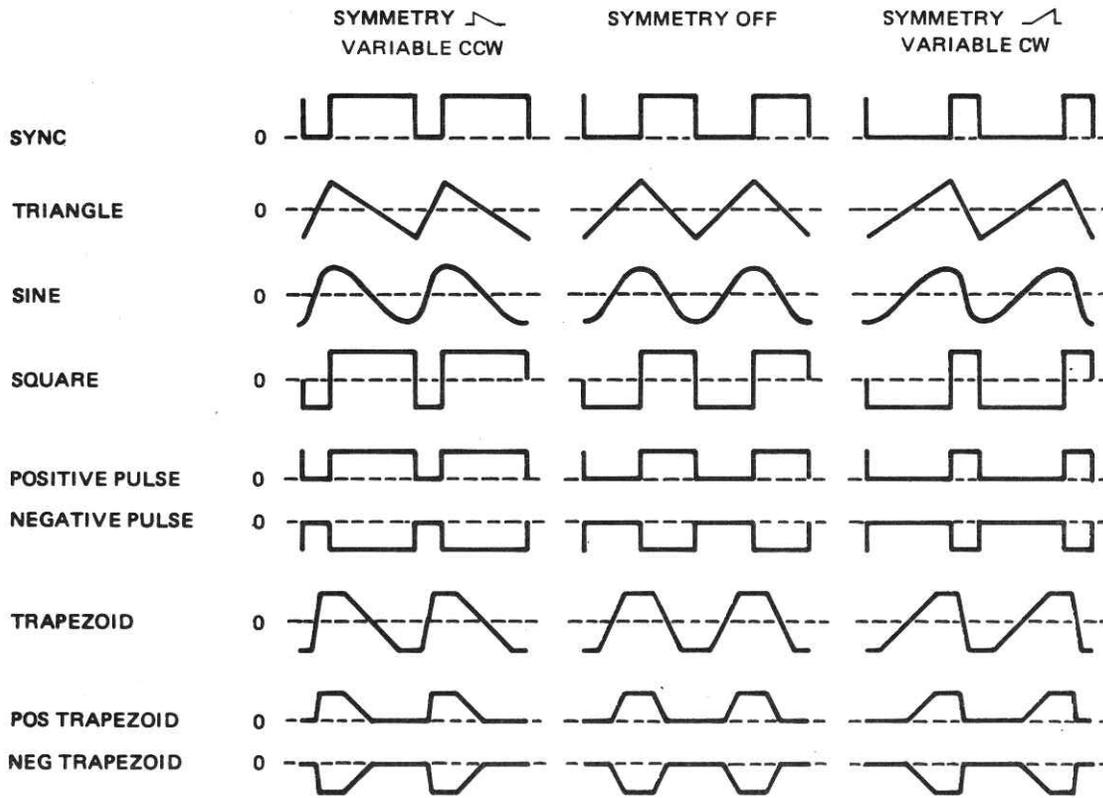
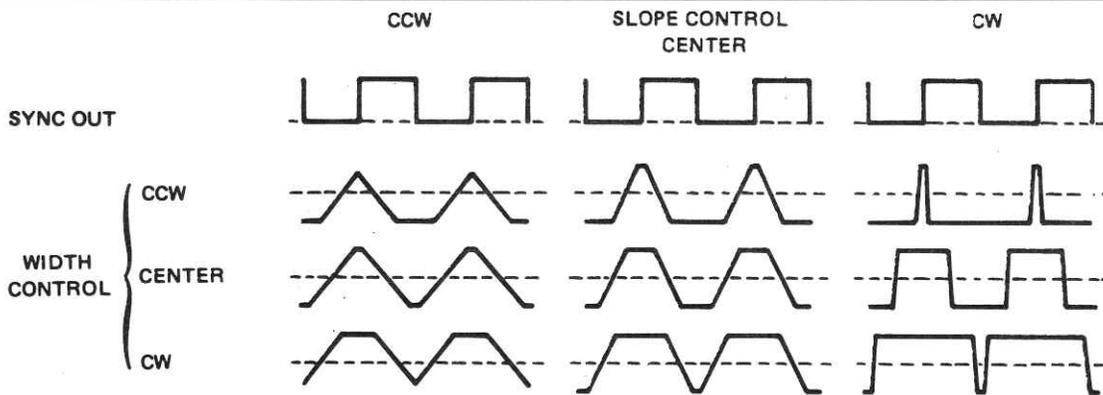

Figure 2-4. Effect of Symmetry Adjustment on Waveforms
Figure 2-5. Effect of SLOPE/WIDTH Control on the Trapezoid Waveform
- Set the SYMMETRY control for desired asymmetry. The SYMMETRY control is used to develop ramp waveforms from the triangle, to vary the duty cycle of the square wave, to vary the ratio of rise/fall time of the trapezoidal waveform. Figure 2-4 shows the effect of this control on output waveforms. The output frequency is divided by approximately a factor of 10 when an asymmetrical waveform is selected.
- When the trapezoidal waveform is selected, the WIDTH control is used to vary the duty cycle of the waveform and the SLOPE control is used to vary both rise and fall times. See Figure 2-5. Use the SYMMETRY control if asymmetrical rise and fall times are desired. See Figure 2-4.